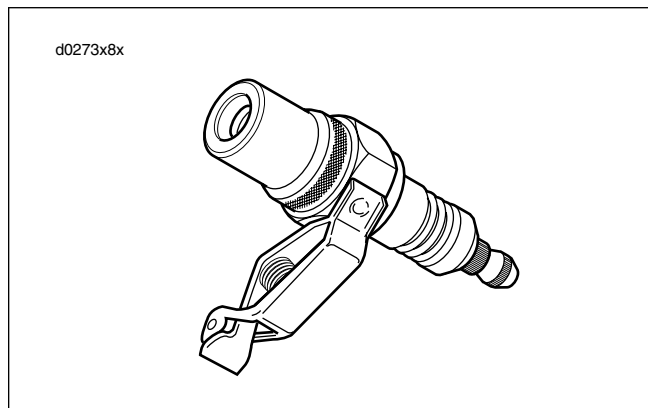

Figure 4-22. Spark Tester
1. See Figure 4-22. Use the SPARK TESTER (Part No. HD-26792) to verify adequate secondary voltage (25,000 volts) at the spark plug.